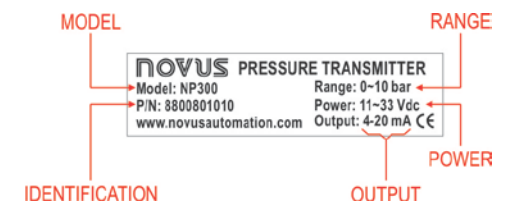

Fig. 01 – Transmitter identification
**Fig. 01** shows the arrangement of the identification information etched on the transmitter's body.